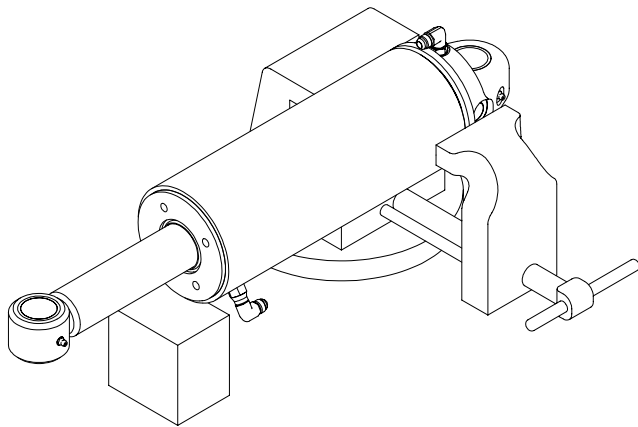

Figure 5-37, Cylinder Vise
2. Clamp the cylinder lightly at the base end in a soft-jawed vise. Use a block or other support under the rod end of the cylinder. (Figure 5-37)